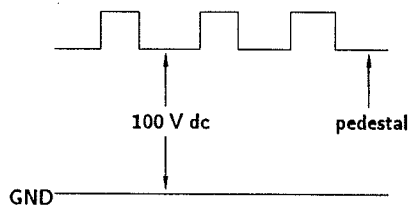

Fig. 1
3. Adjust BKG VRs (VR701, VR702 and VR703) so that voltages on the red, green and blue cathodes are 100V dc with an oscilloscope as shown in Fig.1.